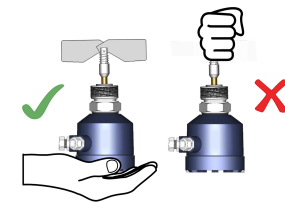

Figure 8: Correct Handling
6. When handling Orbit, do not lift them using their paddle as shown in Figure 8.